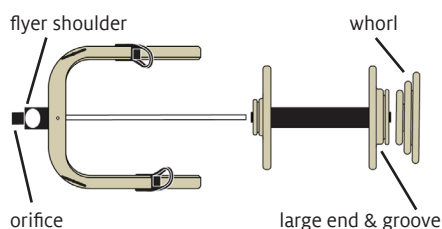

FIGURE 4: SET UP FLYER
the large end at the back. Add a whorl to the flyer (Figure 4).
10. Slide the bulky front maiden back so that the flyer orifice fits into the front bearing. Leave a small gap, about 1/16", between the front bearing and the flyer shoulder (Figures 4 and 5). If the front bearing presses on the flyer shoulder, the flyer will not rotate freely and you will find it hard to treadle.
- If the bulky flyer does not spin freely, remove it and reinstall without the drive band and Scotch tension brake. Check for the 1/16" gap between the bearing and the flyer shoulder (Figures 4 and 5). Spin the flyer by hand. If it spins freely, you can start spinning.